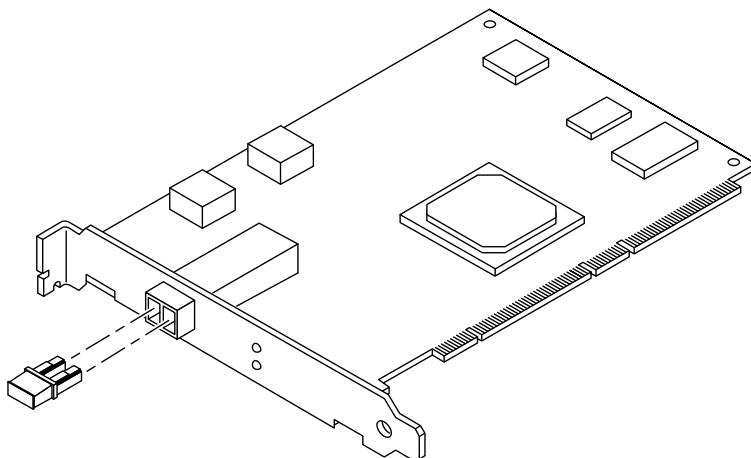

FIGURE 1-3 Sun StorEdge PCI Single 2G Fibre Channel Network Adapter Dust Covers
1. **Pull the dust cover out of the 2 x 5 optical transceiver (OT) connector (FIGURE 1-3).**